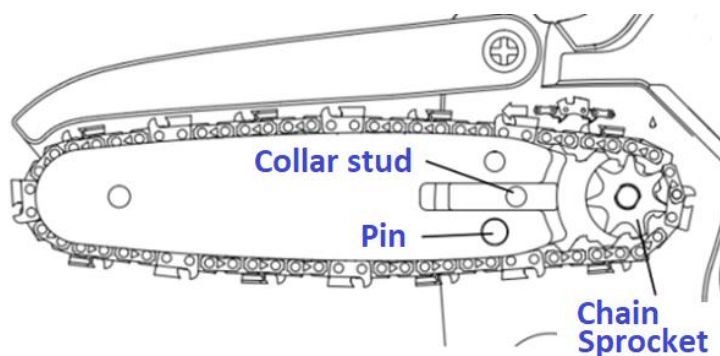

Fig. 6
- Install the guide and the chain onto the tool as illustrated in Fig. 6. Make sure: